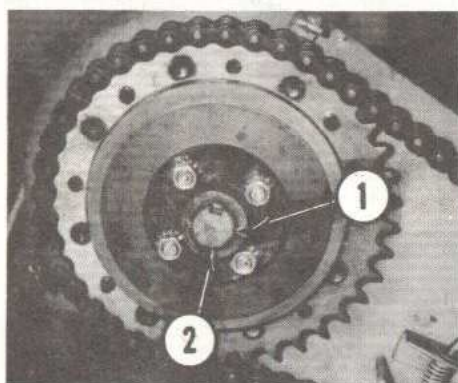

FIG. 35
2. Remove cotter key (1) and ring (2), Fig. 35.